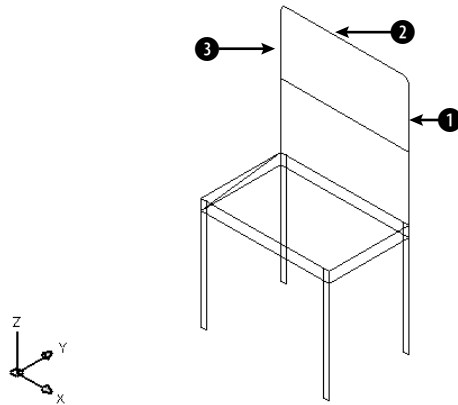

Figure 21-10: A wireframe model of a chair.
8. At the Select first object or [Undo/Polyline/Radius/Trim/Multiple]: **prompt**, pick ① in Figure 21-10. At the Select second object: **prompt**, pick ②.
9. Repeat the FILLET command and pick ② and ③ for the two lines.
10. Save the drawing of the chair. It should look like Figure 21-10.
Wireframes have a number of limitations. In Figure 21-10, the chair that you drew in the previous exercise, you can see the back leg through the seat of the chair. Also, creating the detail of a real chair would be tedious if you were to use individual lines or 3D polylines. Finally, wireframes don't have any surface or solid properties. You can't display them in any realistic fashion or calculate properties, such as area, mass, and so on.